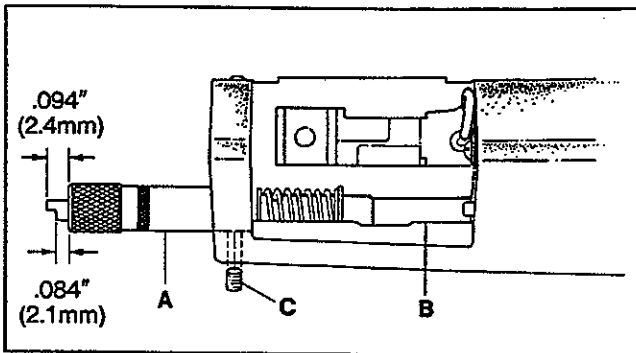
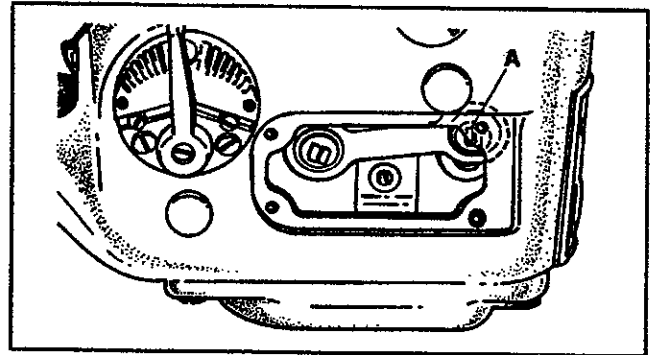

FIG. 12
FIG. 13
The looper avoid is set at .094" (2.4mm). Using gauge no. 21227BV (A, Fig. 12), position looper shaft (B) fully to the rear (away from operator) and insert the gauge through the looper shaft hole in the end of the cylinder until the plunger is fully extended from the gauge. Tighten clamp screw (C). When the looper is positioned fully to the front, the end of the plunger should be flush with the end of the gauge. The motion of the plunger from the extended position to flush represents .094" (2.4mm) travel. If less looper avoid is required, use the other step on the gauge which is .084" (2.1mm). To adjust the looper avoid remove the cylinder cover and loosen screw (A, Fig. 13) with T1-85 wrench. Raise the ball joint to shorten the avoid motion or lower it to lengthen the avoid motion. Tighten screw (A). Reposition gauge (A, Fig. 12) and recheck the setting.